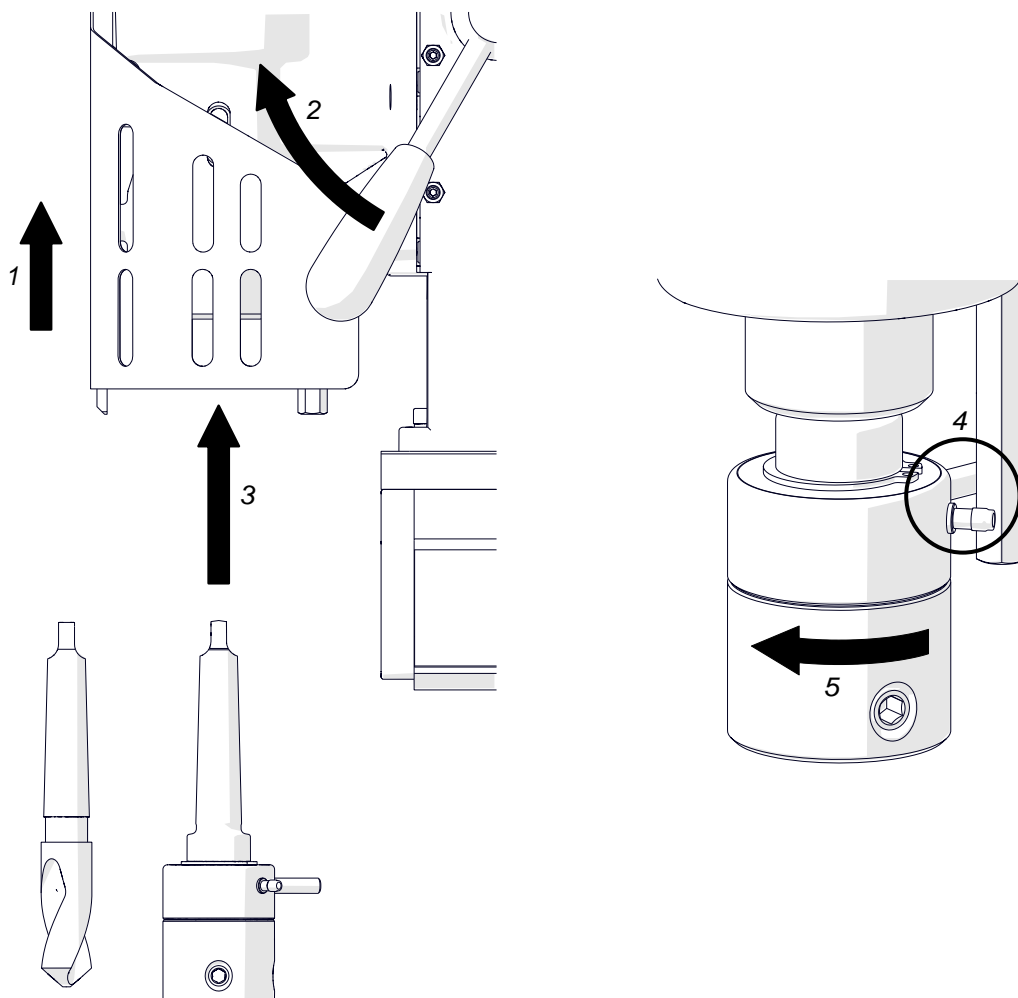

Fig. 1. Installing the arbor or twist drill bit
Unplug the machine from the air source, raise the chip guard (1, Fig. 1), and then rotate the handles to the right (2) to raise the motor. Use a clean and dry cloth to wipe the spindle and arbor (twist drill bit). Next, wear protective gloves and insert the arbor (drill bit) into the spindle (3) so that the vertical rod is placed between the horizontal rod and hose fitting (4). Finally, rotate the arbor (drill bit) to the right (5) until it snaps into place.